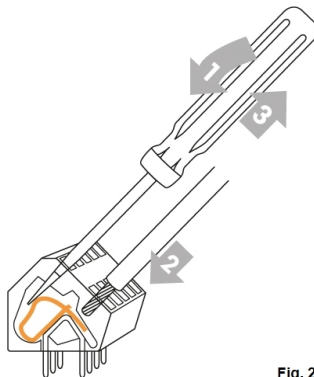

Fig. 2
4. Open clamps with a fitting screwdriver (figure 2) and connect electrical system to the controller.